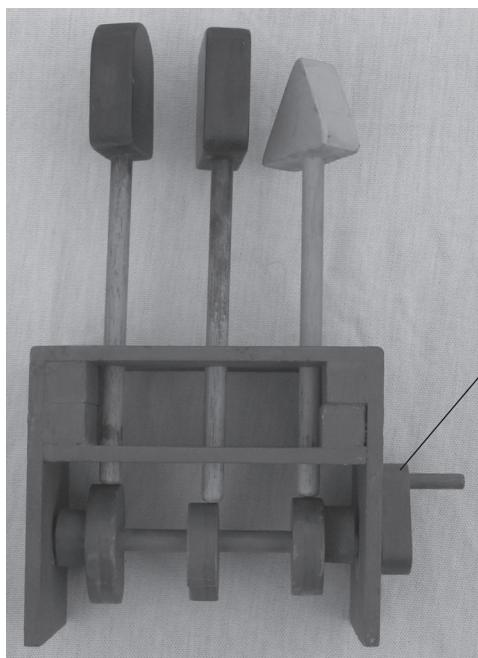

Fig. 9a
- 4 Fig. 9a shows a cam demonstration unit designed for use in a school workshop.